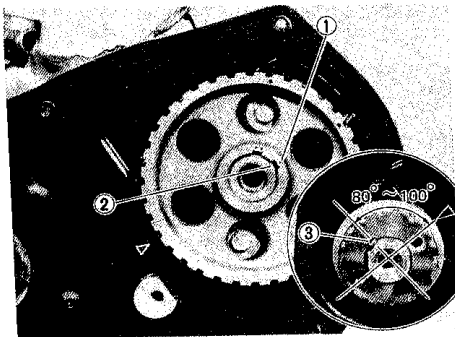

Fig. 3-137
Before installing the pulley as above, check to be sure that crankshaft keyway ③ is in the 80°—100° range, as shown in Fig. 3-137.